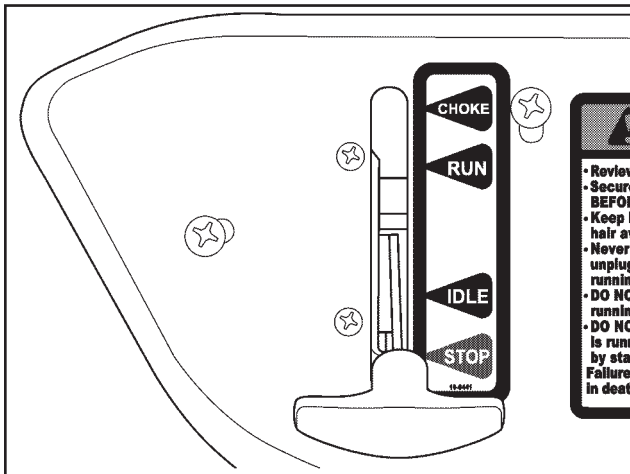

FIGURE 21 Stop Position
1. Stop the engine by positioning the throttle to the STOP position (See Figure 21).